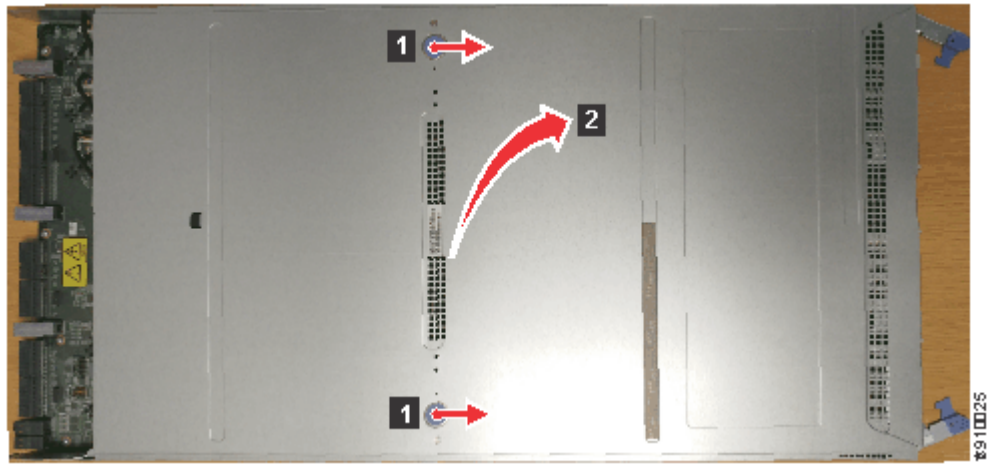

Figure 72. Removing the node canister cover
3. Open the cover of the node canister by depressing the recessed, blue touch points on the lid (1) and sliding the lid away from you (2), as shown in Figure 72 on page 127.